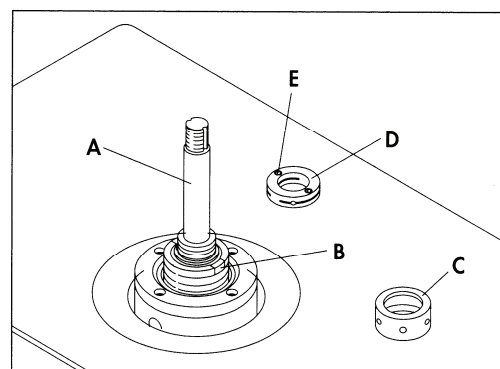

Fig.3.15
5. Very carefully insert the spindle (A) Fig.3.15 to the hole of main shaft. Make sure the tang (B) on the spindle is engaged with the notch, then lock it with nut (C) , and lock nut (D) in reverse direction.
6. At the upper part of the lock nut (D) there are two screws (E). Turn the two screws (E) by pressing the threads of the nuts (D) tightly in order to prevent the spindle from loosening when it is used in the forward and reverse directions.